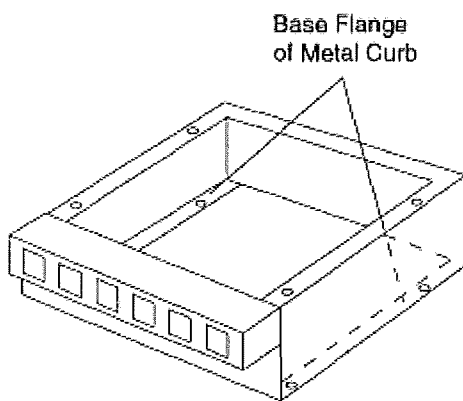

Fig. 2-2
- a. Bolt or weld base flange of metal curb (R/N33669) to floor of ship. See figure 2-2.